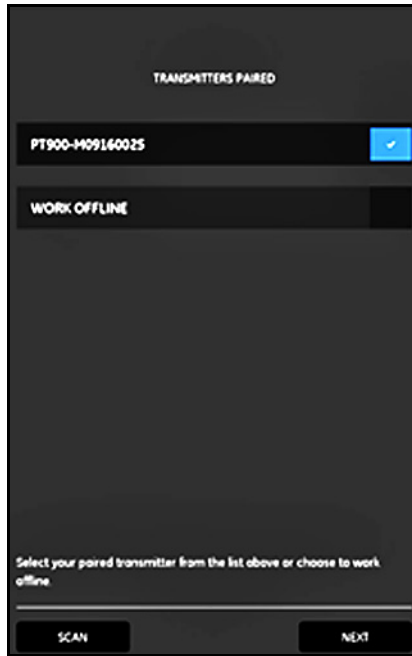

Figure 67: Paired Transmitters List
10. Click the **BACK** button (shown at right) on the Android tablet to return to the PT900 APP. Then, select your PT900 transmitter in the **TRANSMITTERS PAIRED** list and click **NEXT** to open the *Main Menu*. For example, the **PT900-M09160025** transmitter is selected from the list in *Figure 67* below.
Note: *If desired, you may simulate the APP operation without connecting to the transmitter. To do so, click the **WORK OFFLINE** option in Figure 67 above.*